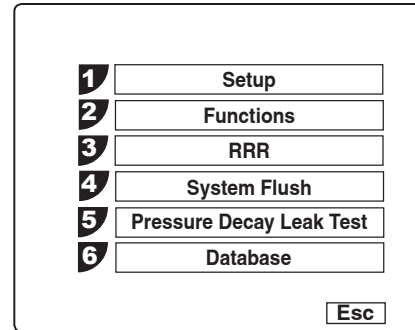

Figure 11
13. Refer to Figure 11 and select SYSTEM FLUSH from the main menu. Press **OK**.